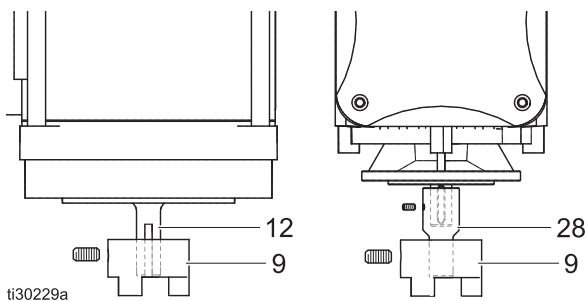

FIG. 4: Coupling on Motor Shaft
7. Place coupling (7) onto agitator shaft above the retaining ring and tighten set screw (7a) securely.
8. Place spider disk coupling (8) on top.
9. For UL motors: Fasten motor flange (10) to bearing housing with 4 cap screws (5). For ATEX motors: Place the adapter (28) on the motor shaft and secure with set screw (29). Attach the adapter flange (30) to the motor (12) with 4 socket head cap screws (31).
10. For UL motors: Place coupling (9) flush to the bottom of the motor shaft. See FIG. 4, left side. Securely tighten set screw in coupling. For ATEX motors: Place coupling (9) flush to the bottom of the adapter (28). See FIG. 4, right side.